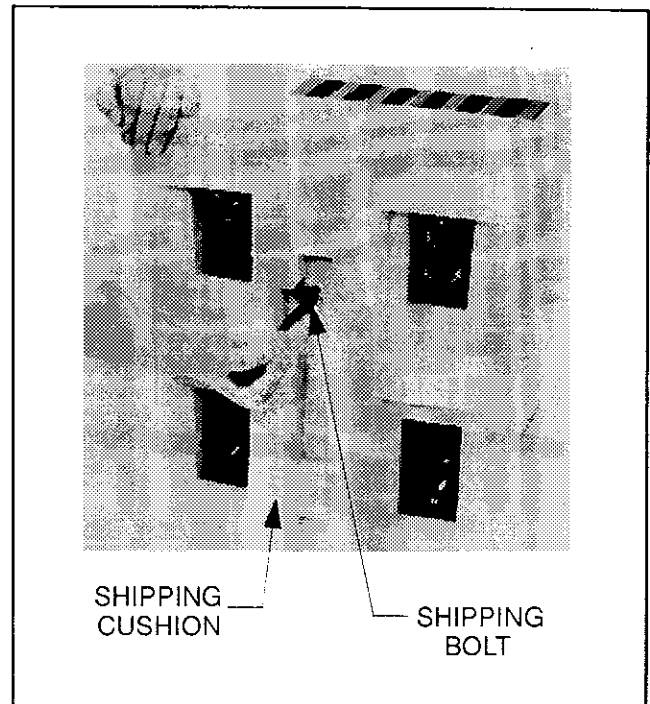

Figure 2.1 Removing the compressor bottom shipping cushion
3. Refer to Figure 2.1 and remove the bottom shipping cushion and shipping bolt from the compressor as follows: